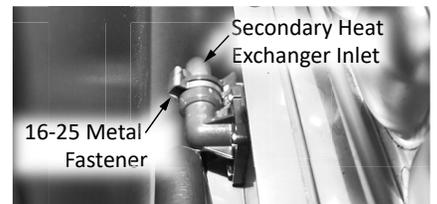

Figure 63: Secondary Heat Exchanger Inlet Connection.
- 19 On the left-back side of the secondary heat exchanger, locate the copper pipe connected to the secondary heat exchanger inlet (# 466). Remove the 16-25A metal fastener and disconnect the copper pipe from the secondary heat exchanger. Space is restricted so you will need to have the pipes disconnected in steps 17 and 18 moved aside to allow access. Set the metal fastener aside for re-installation. See Figure 63.
36 Reconnect the copper pipe (#466) to the secondary heat exchanger inlet. See See Figure 63 on page 56. Use the 16-25A metal fastener. When placing the fastener, position the top (flat section) of the fastener to the ten o' clock position.